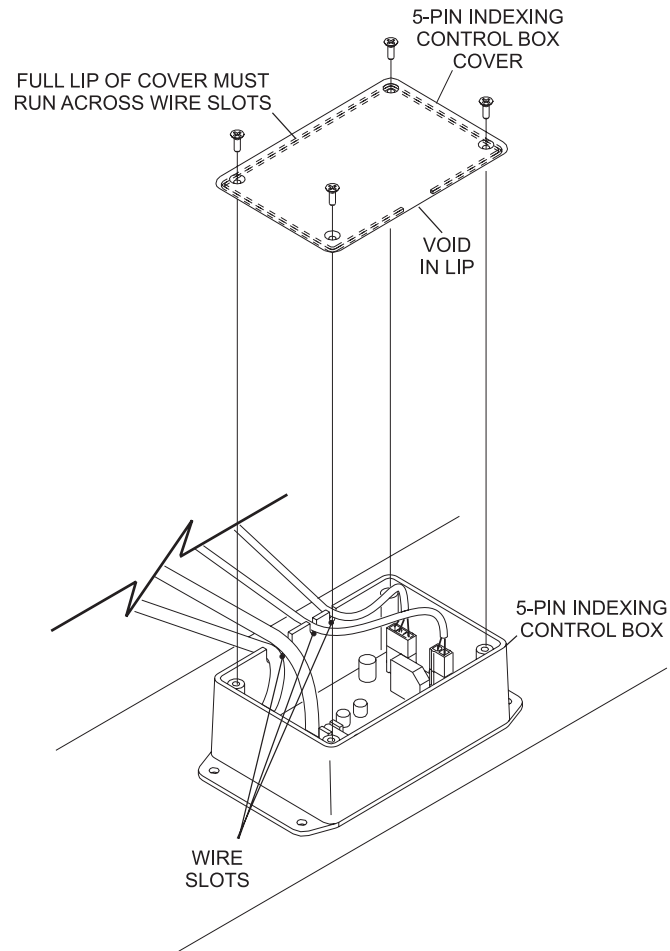

Figure 12
4. Replace the cover of the circuit board enclosure. Be sure that the full “lip” of the clear cover runs across the wire slots in the enclosure to act as a wire strain relief. Refer to *Figure 12*.